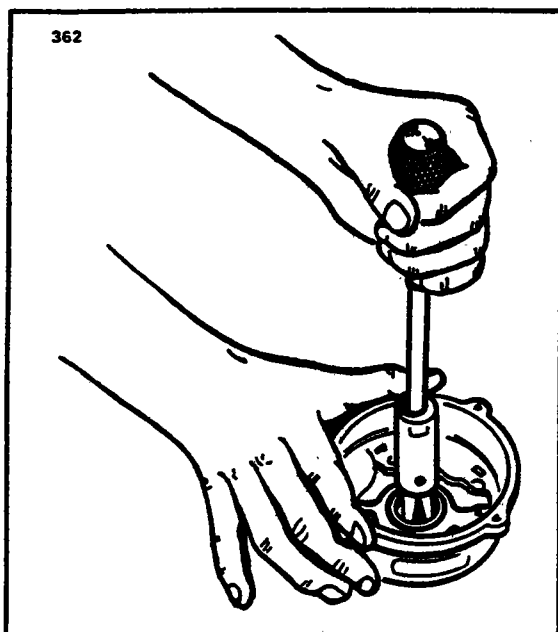

Figure 11-72. Removal of Slip Ring End Bearing
- e. To remove the slip ring end bearing and grease seal, it will be necessary to have a hook type or impact type bearing puller as shown in Figure 11-72. Do not remove the bearing unless replacement is necessary.